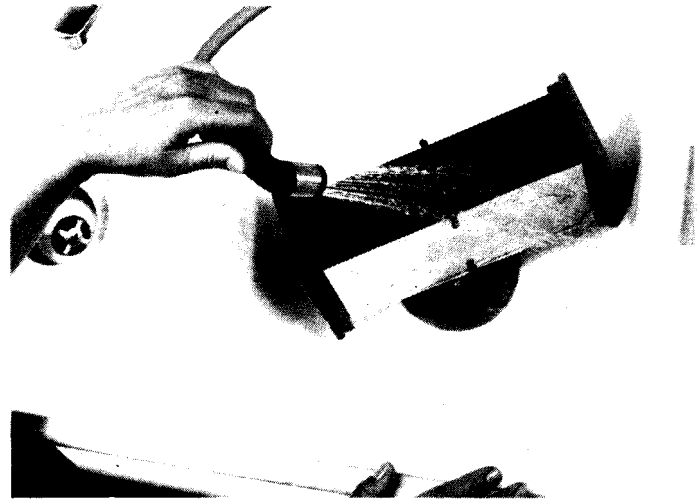

Figure 10
E. Thoroughly rinse both sides of cell. If a sprayer is available, spray with water (Figure 10). Check to make sure cell plates are clean.
F. Repeat (C) to (E) if necessary.